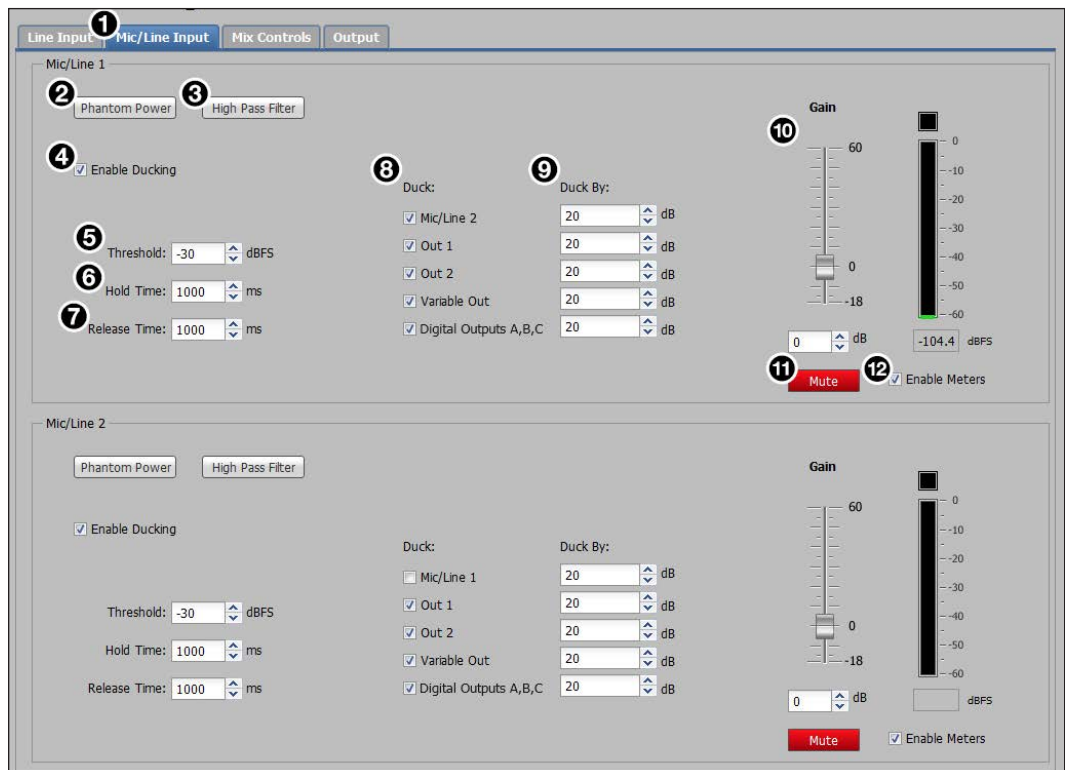

Figure 71. Mic/Line Input Tab
2. For the web pages only, select the **Enable Meters** checkbox (see figure 71, **5**).
1. Click the **Mic/Line Input** tab (see figure 71, **1**, on the previous page).
3. To mute the mic/line gain, click the **Mute** button below the mic/line **Gain** fader (see **figure 71**, **11**, on page 101).
4. In the **Hold Time** field (see figure 71, **6**, on page 101) adjust the value by one of the following methods: